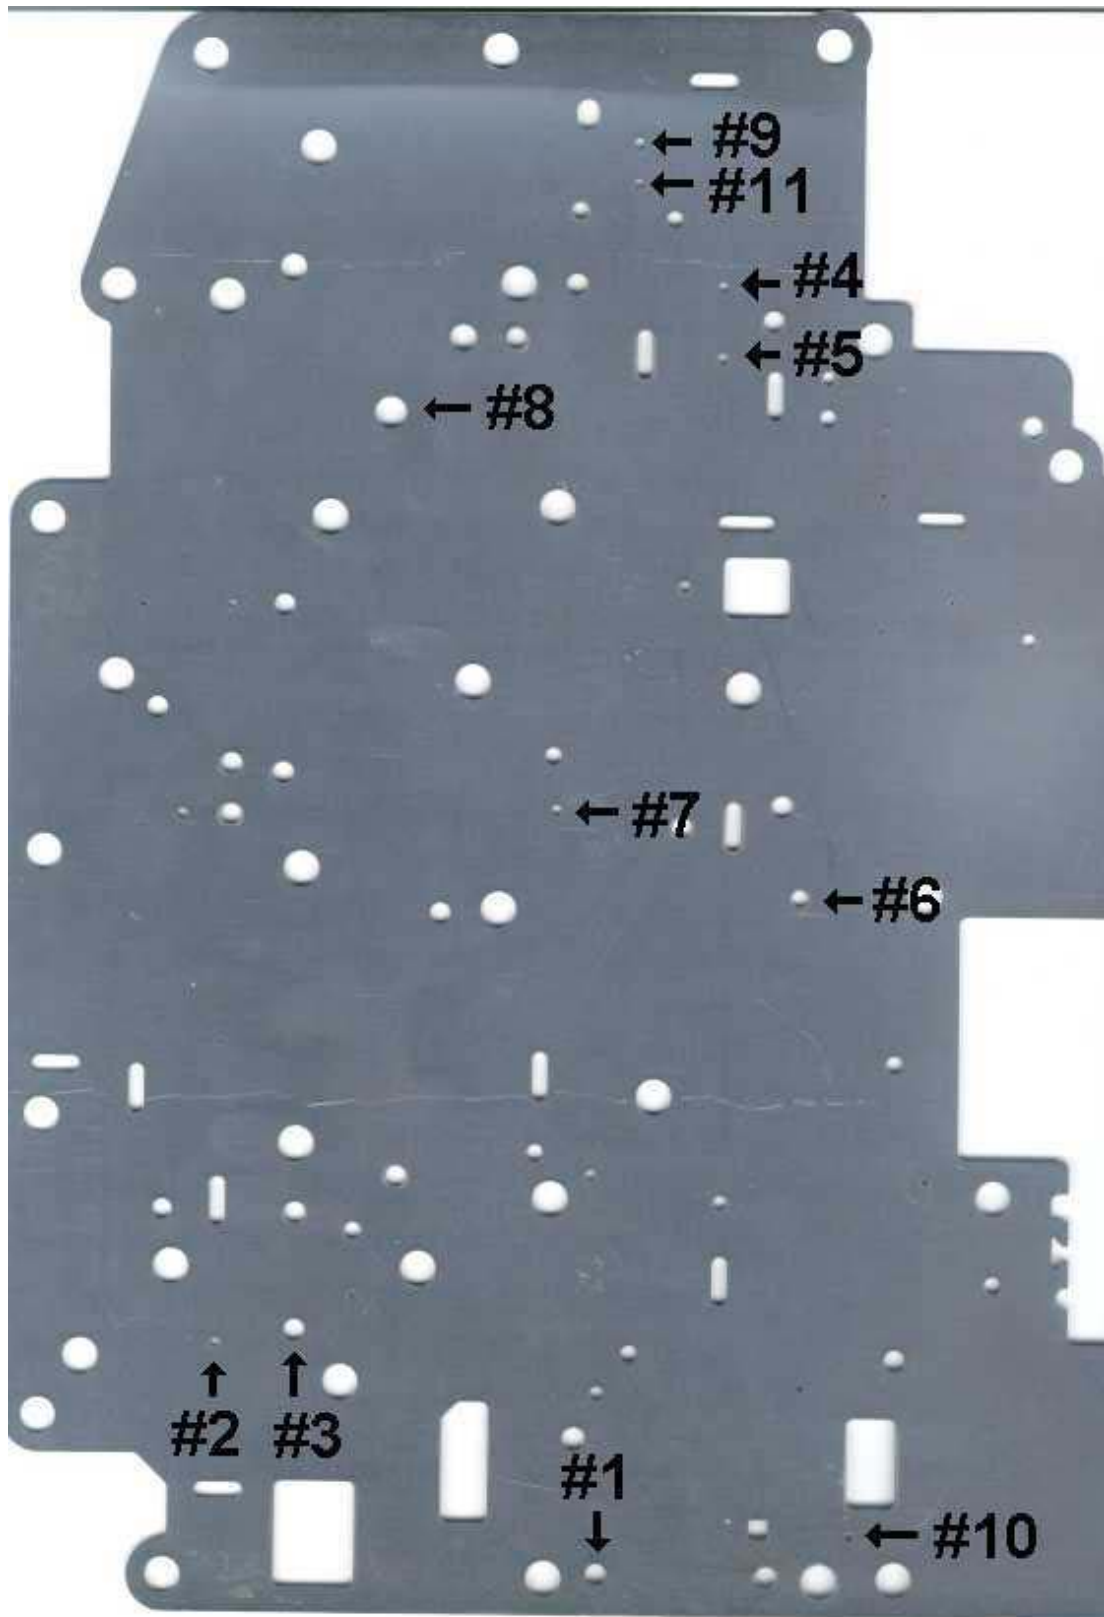

Figure 1
- Drill the holes as prescribed in Jerry's document (Figure 1)